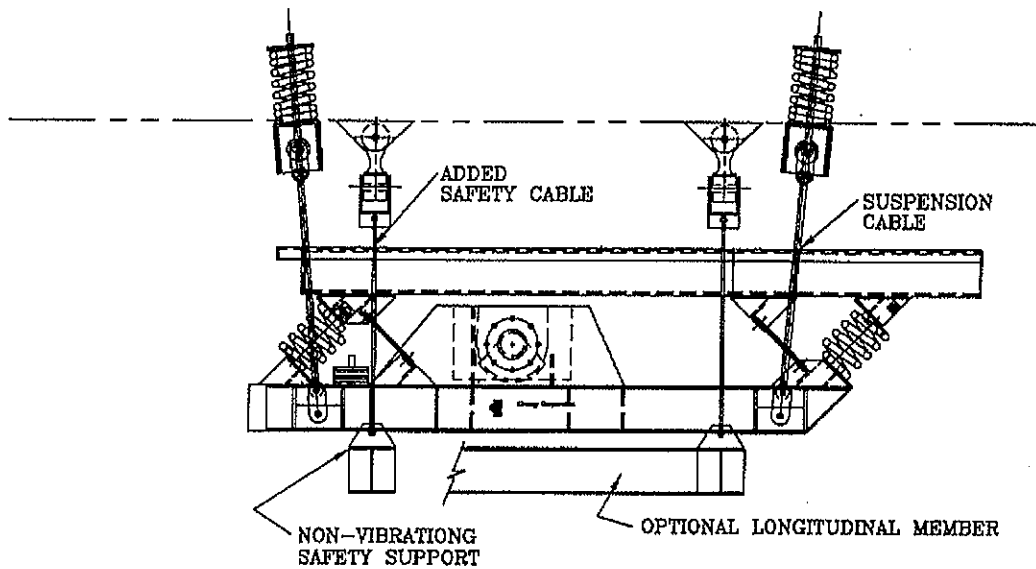

Fig. 13: When the feeder must be suspension mounted, a non-vibrating safety support or structural stops are recommended.
3. **When high shock or large impacting loads** can occur at the inlet sometime during the tenure or life of the application, do not suspend the Feeder on cables. Instead, support the Feeder from underneath on an adequate structure. (See Figures 13, 14 and 15.)
4. **If suspension cables are appropriately used** for overhead support, make sure an adequate secondary support, by means of structural "stops" on the Feeder's underside or some type of non-vibrating "safety slings", are also used. (See Figures 13 and 21.)
- F. Units suspended on cables need a safety support or structural stops. (See Figure 13.)